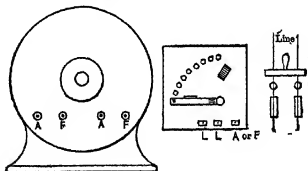

FIG. 227. Series motor, starting box and line.
**Prob. 21-9.** Connect the series motor, Fig. 227, with the line through the box.